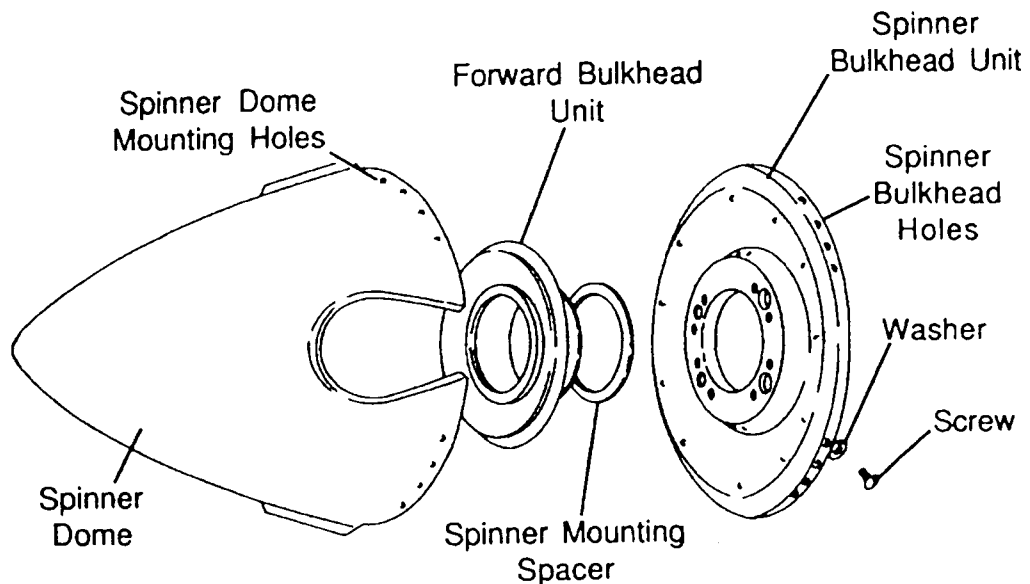

Figure 7.0-1 Spinner Assembly
- a) The spinner dome is supported by a forward bulkhead unit (see Figure 7.0-1) that encircles the propeller cylinder. If the forward bulkhead unit does not fit snugly on the cylinder, the cylinder may need to be wrapped with one or more layers of fluroglas or UHMW tape (Hartzell P/N B6654-100 or equivalent). Apply a layer of tape, check, and repeat until the forward bulkhead unit fits snugly on the cylinder.